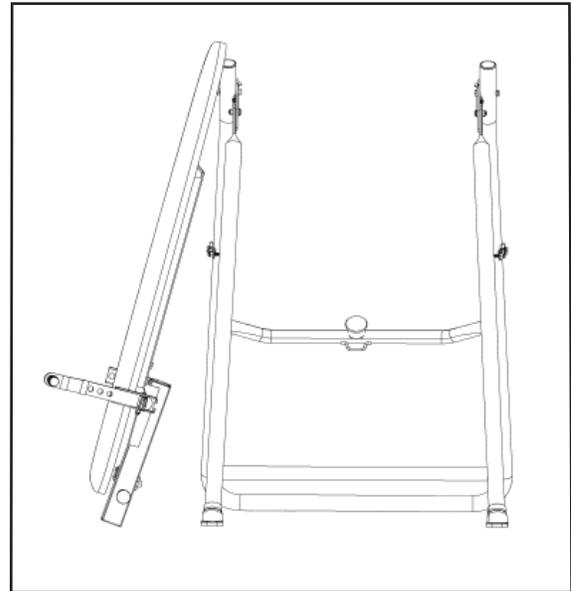

Figure 3
- For ease of assembly, rest the Bed Mat against the side of the A-frame (Figure 3).